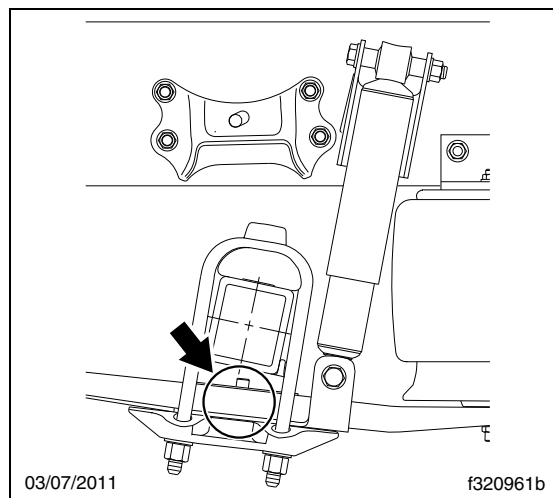

Fig. 1, Inspection Area
2. From the underside of the rear suspension, inspect the spring between the U-bolts at the clamp group. Remove any debris from the area of the spring, then using a flashlight, inspect the surface of the spring for any cracks and or separation. See **Fig. 1**.